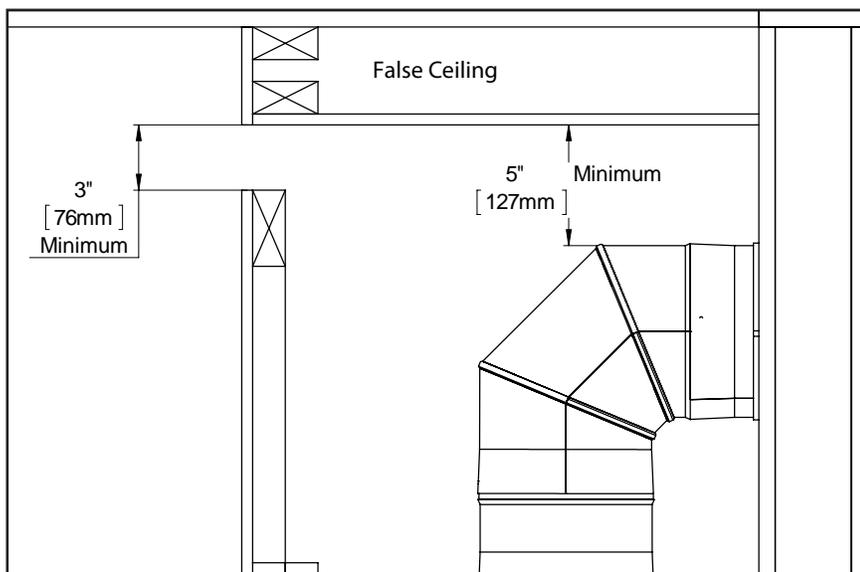

Figure 55: False Ceiling
**Optional: False Ceiling** - If your ceiling dimension is greater than the minimum (See figure 42) You may want the CSS Air discharge lower on the wall. To do this a false ceiling is required to properly evacuate the heat from the chase. (See Figure 55).